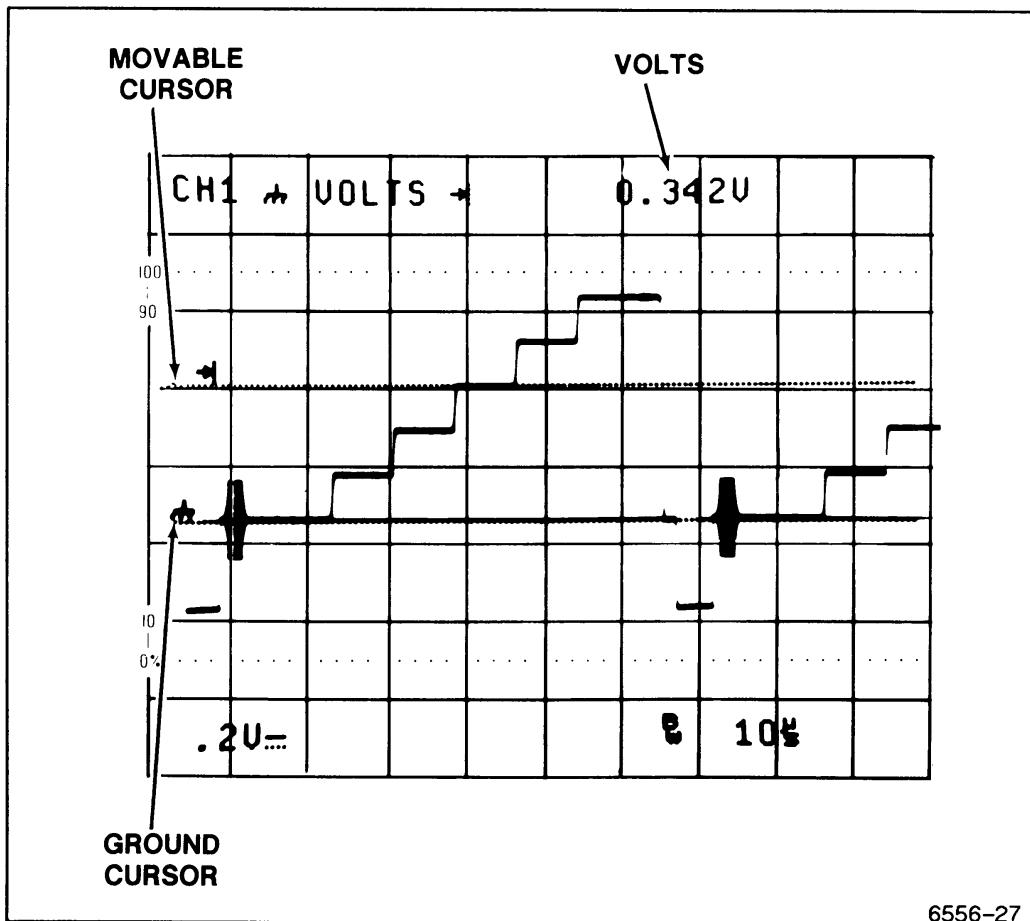

Figure 5-4. Voltage measurement.
- Position the independent cursor using the \rightarrow control to the measurement point on the waveform and read out the value of the cursor position (shown in Figure 5-4). (The \leftarrow OR DELAY control has no effect.)
The test signal used for illustration purposes in Figure 5-4 is a video test signal. For triggering on a video waveform, select TV LINE Trigger COUPLING and negative (\searrow) Trigger SLOPE; for other signal types, no change of COUPLING or SLOPE is required.